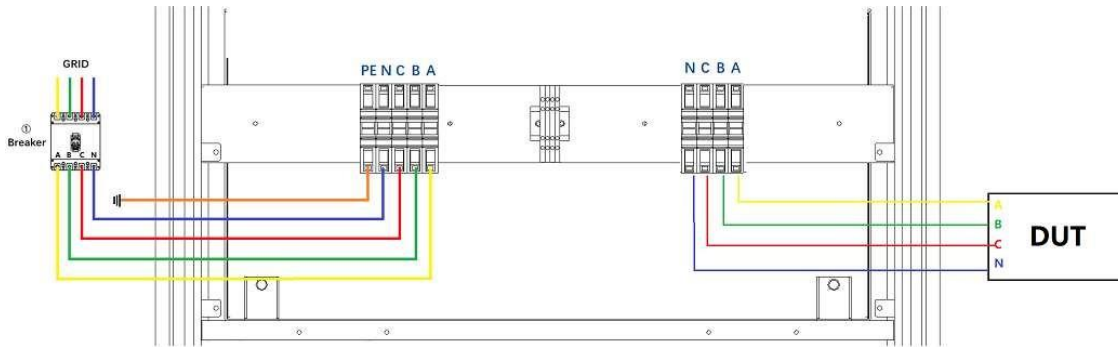

Figure 3-1 Equipment and the circuit breaker (Default AC output)
After completing the installation, close the circuit breaker on the distribution side (Figure 3-1 ①).